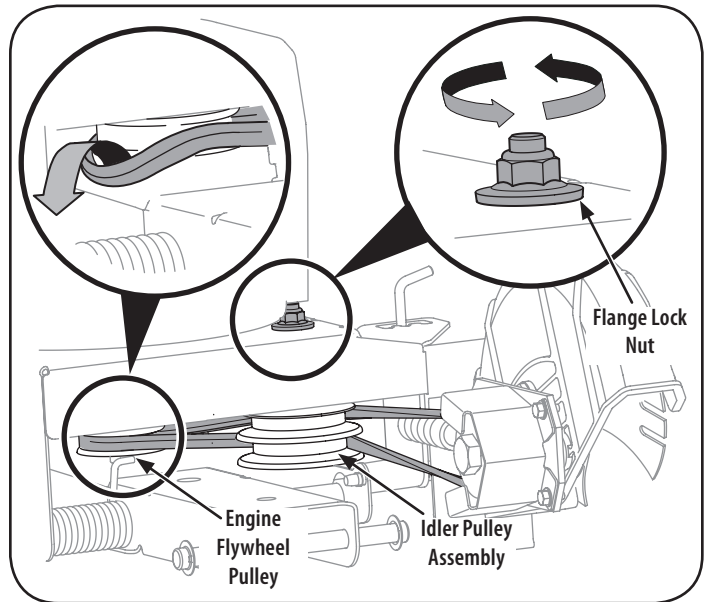

Figure 15
NOTE: To aid in reassembly, note the orientation of the drive belt on the two idler pulleys and the engine flywheel pulley prior to performing the following steps. Refer to Figure 15.
1. Working in front of the edger, loosen the flange lock nut on top of frame, allowing the idler pulley assembly to pivot slightly out from the frame. See Figure 15.
2. With your other hand, carefully reach under the rear of the edger and remove the belt from around the engine flywheel pulley. See Figure 15.